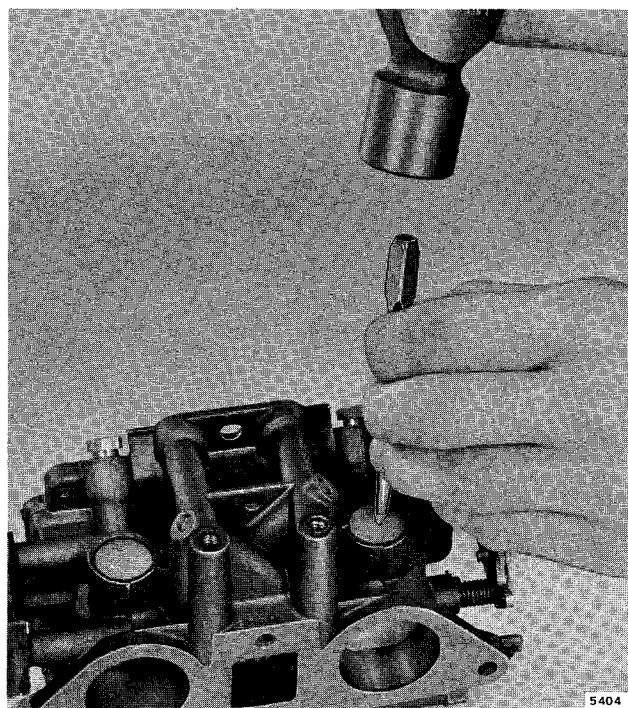

Figure 3-19. Installing or Tightening Core Plug
a. If leakage is slight, a smart tap with a hammer and flat end punch in the center of the core plug will normally correct this condition. See Figure 3-19.